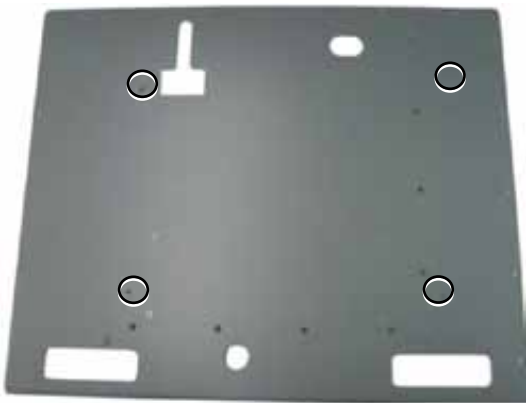

Figure 4-7. AO Unit Mounting Holes – General Location
1. Align the AO unit with the appropriate 4 holes on the top cover (circled in Figure 4-7).